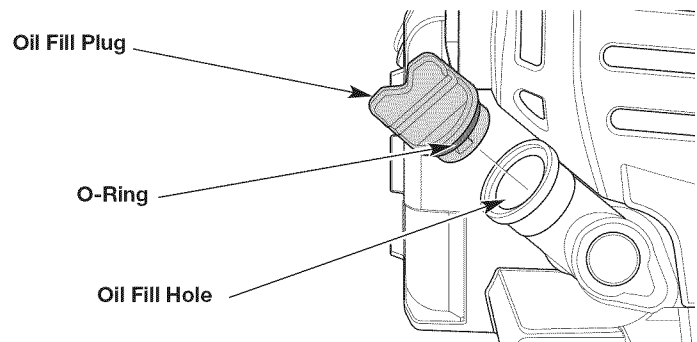

Fig. 7
- Unscrew the oil fill plug (Fig. 7).
- Pour the entire bottle into the oil fill hole (Fig. 7). **DO NOT** overfill. Refer to *Checking the Oil Level*.
NOTE: Make sure the O-ring is in place on the oil fill plug (Fig. 7).